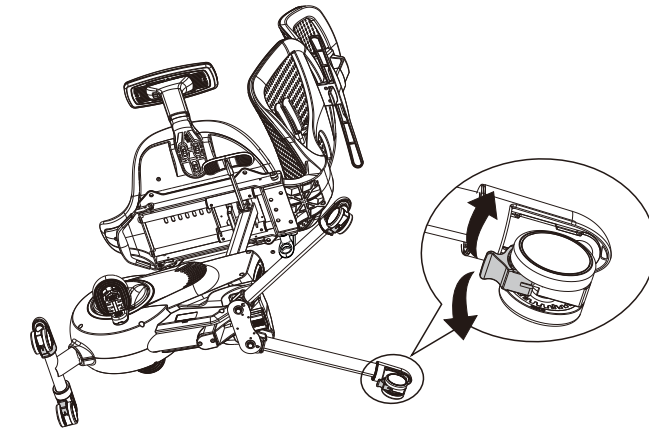

Figure 9
8. Foot brake wheel function: turn the brake wheel wrench downward to lock the wheel, and upward turn the wheel to loosen (as shown in Figure 9).